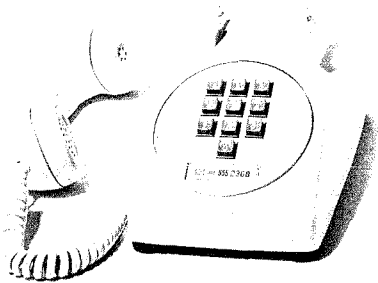

Fig. 2 – 1500 Type Telephone Set
**2.07** The 1500-Type TOUCH-TONE Set (Fig. 2) is basically the same as the 500-Type Set except that the dial mounting bracket and set housing have been modified to accommodate the 25-Type TOUCH-TONE Dial. The dial assembly contains a line powered oscillator which generates two frequencies when a button is depressed. These frequencies are transmitted to the central office which must be equipped with a converter.